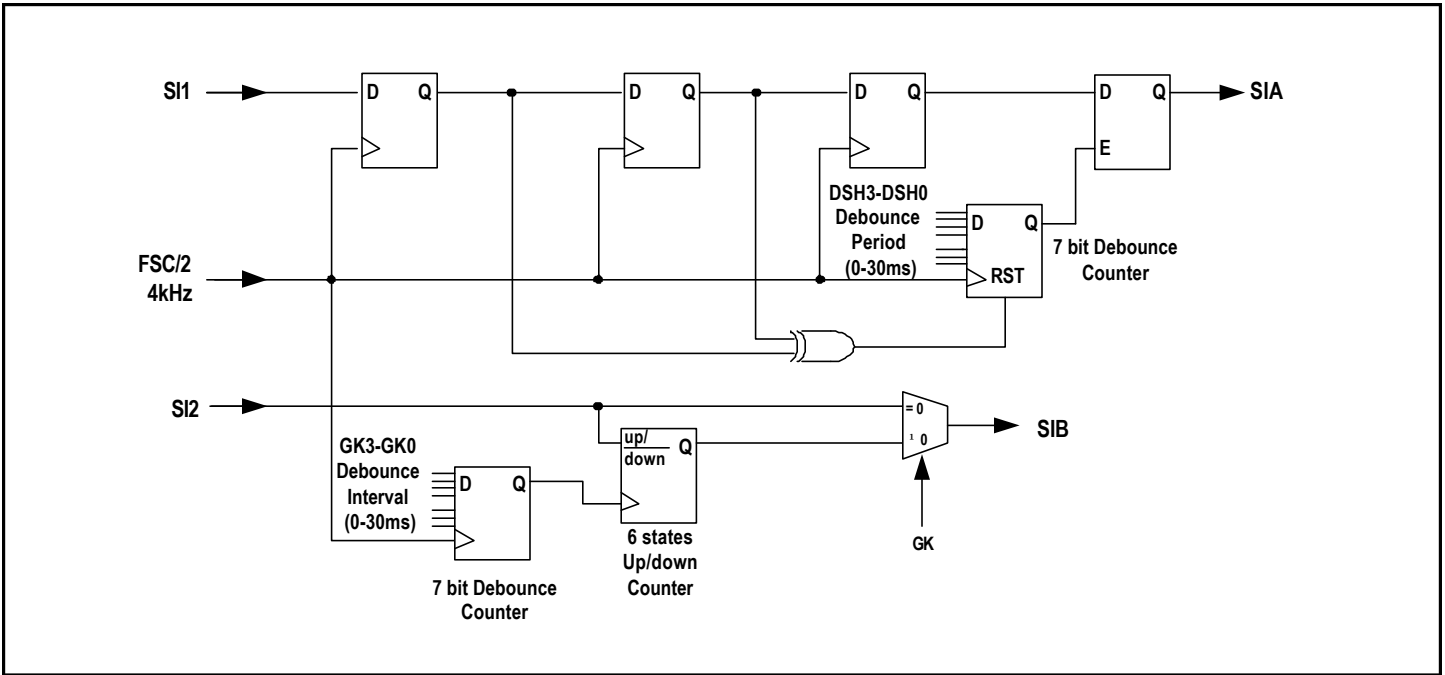

Figure 7. Debounce Filters
For each channel, IDT821064 provides two debounce filter circuits: Debounced Switch Hook (DSH) Filter for SI1 and Ground Key (GK) Filter for SI2 as shown in Figure 7. They are used to buffer the input signals on SI1 and SI2 pins before changing the state of the SLIC Debounced Input SI1/SI2 Register (Global Command 7). Frame Sync (FS) is necessary for both DSH filter and GK filter.